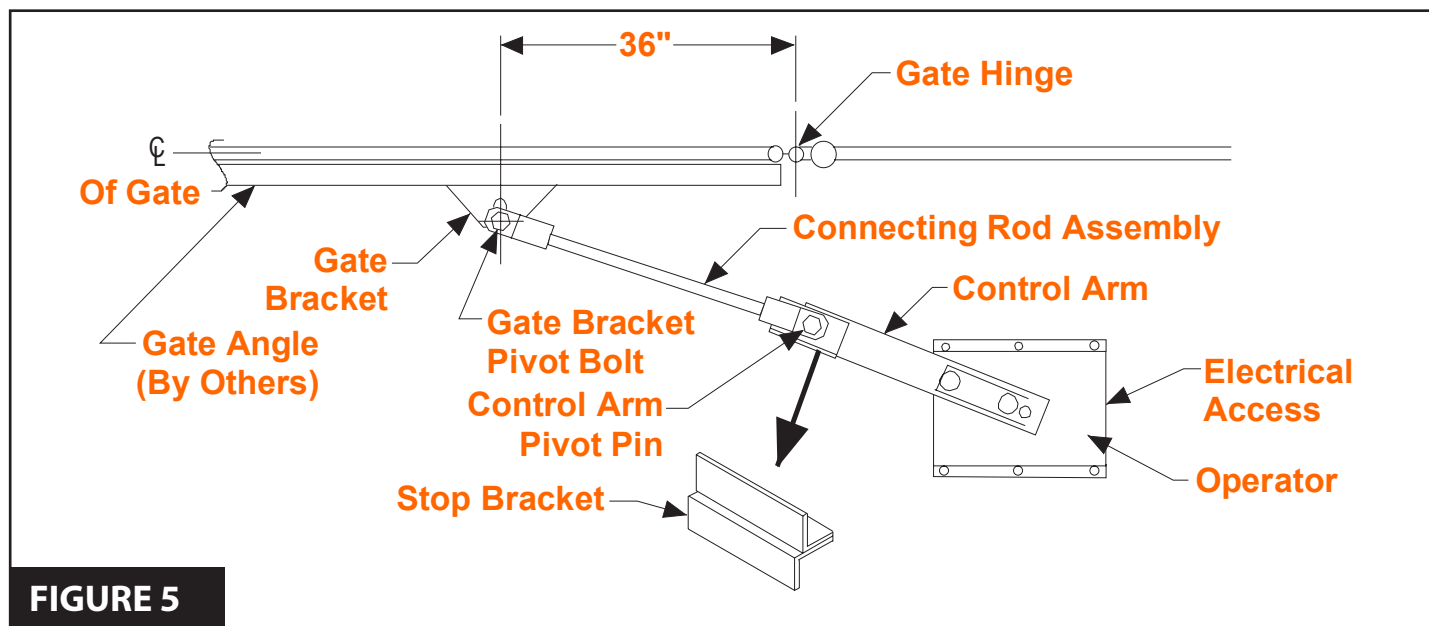

FIGURE 5
- d. Move connecting rod bolt in gate bracket to a different hole. See **Figure 5**.